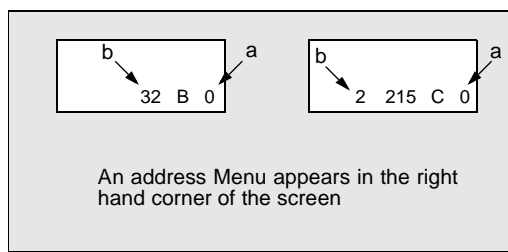

Figure 14. **Service Mode Menu Adjustments.**
Note: Only the applicable settings for the Receiver serviced will be available (See a in Fig. 14).
1. Press **Channel Up/Down** on the **Remote Control** to select one of the available Service Adjustments (**a** in Fig. 14).
Note: Write Down the original value set (**b** in Fig. 14) for each address before modifying anything. It is easy to erroneously adjust the wrong item.
2. Press **Volume Up/Down** on the **Remote Control** to adjust the level of the selected Service Adjustment (**b** in Fig. 14).
1. Press Channel Up/Down on the Remote Control to select one of the available Service Adjustments (a in Fig. 14).
Note: Write Down the original value set (b in Fig. 14) for each address before modifying anything. It is easy to erroneously adjust the wrong item.
2. Press Volume Up/Down on the Remote Control to adjust the level of the selected Service Adjustment (b in Fig. 14).